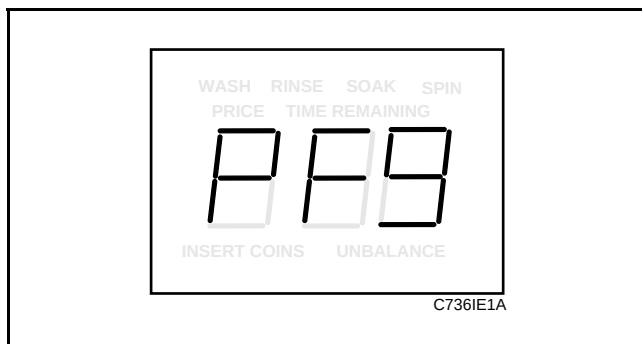

Figure 56
3. Press the DELICATES (+) pad or the COLD (-) pad to scroll through the programmable options until “PFg” appears in the VFD. See **Figure 56**.